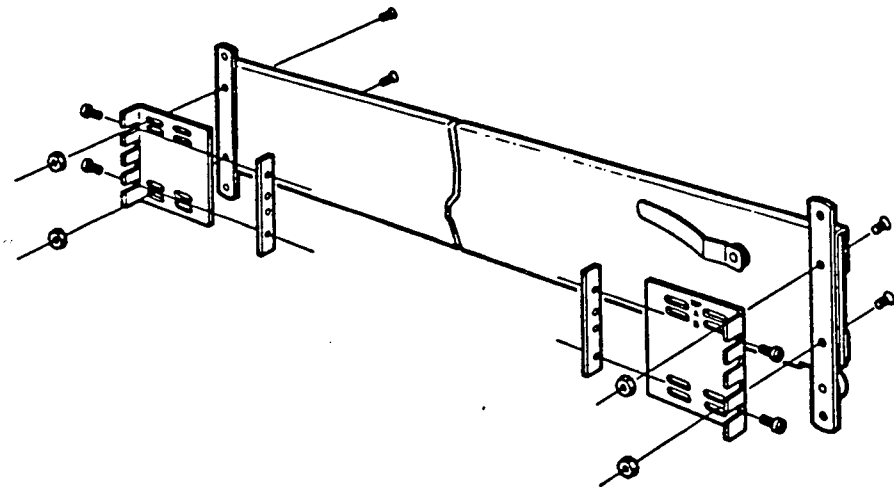

FIGURE 4. INSTALLING SLIDE ADAPTER
9. Using hole pattern "B" (see Figure 4), attach one adapter bracket to the front of each outer slide mount, using two M4x0.8x12 flat-head screws and nuts per bracket.